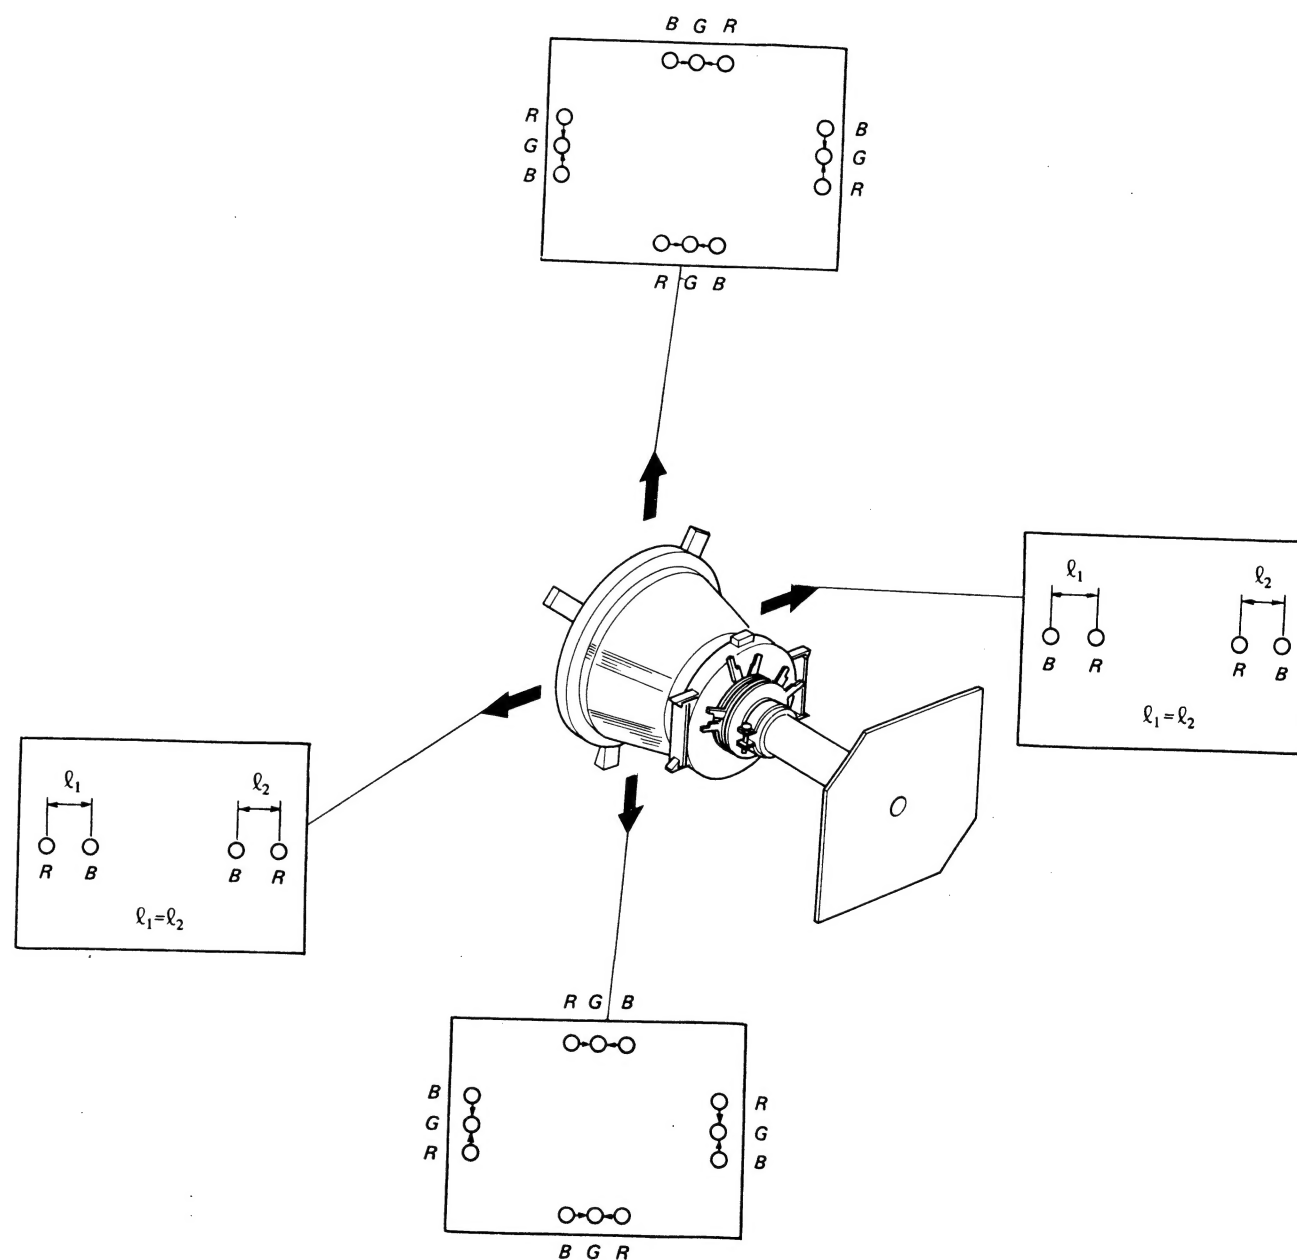

Fig. 3-7
3. Move the deflection yoke for best convergence as shown in Fig. 3-7.